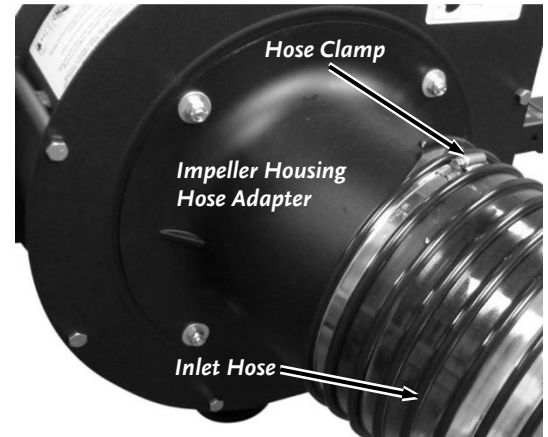

Figure 78
3. Disconnect the Hose from the Impeller Housing using a Flat Head Screwdriver or 7mm Wrench (**Figure 78**).